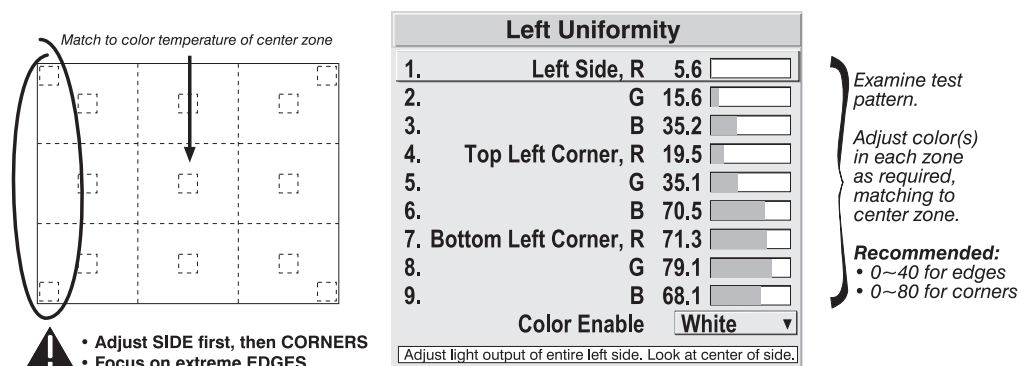

Figure 3.34. Match Zones to Center Color Temperature
- 2b) Return to the *Brightness Uniformity* menu. Beginning with the screen that exhibits the most obvious color shift(s), for each edge that exhibits a noticeably different color temperature from the center, select the corresponding *Uniformity* adjustment menu—*Left*, *Right*, *Top* or *Bottom*. For example, if any part of the left side is too blue, too red or too green, go to the *Left Uniformity* menu and adjust the colors (i.e., change their light output) until all portions of the left side closely match the center color temperature. Adjust an edge first (focusing on its center), then adjust its corners. See Figure 3.34.